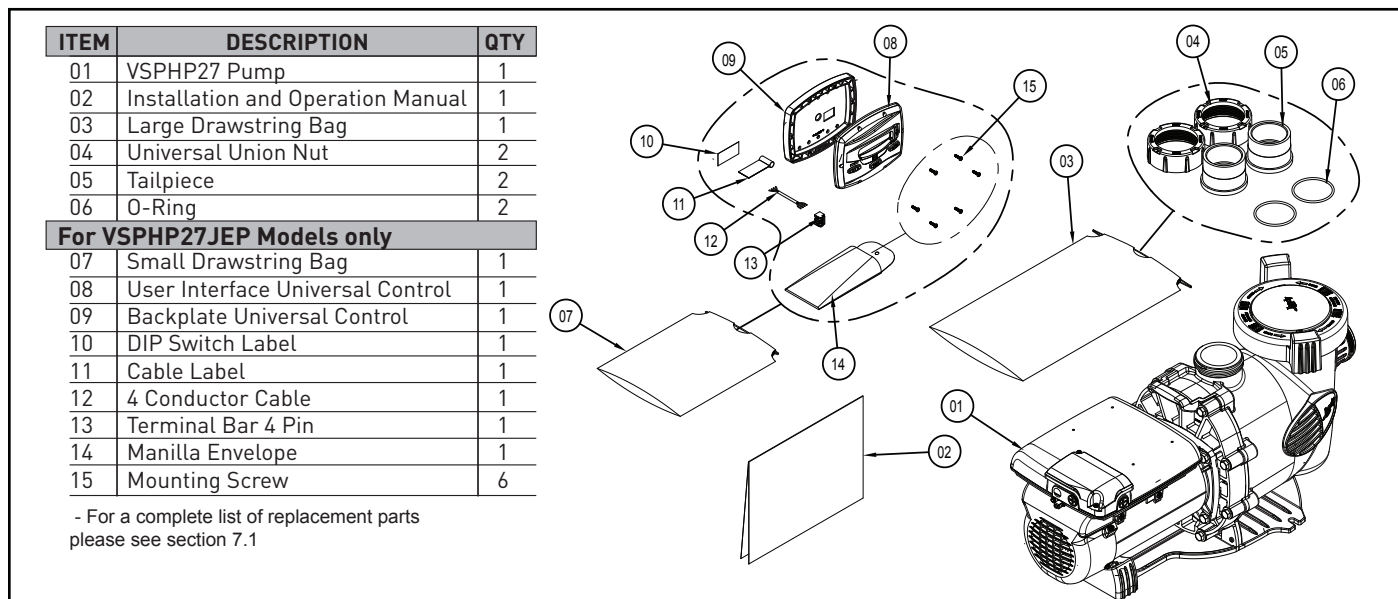

Figure 1. Carton Contents
- **Number of Suction Outlets Per Pump** - Provide at least two (2) hydraulically-balanced main drains, with covers, as suction outlets for each circulating pump suction line. The centers of the main drains (suction outlets) on any one (1) suction line must be at least three (3) feet apart, center to center. See Figure 1.
2. Inspect the contents of the carton and verify that all parts are included. See “Figure 1. Carton Contents”.